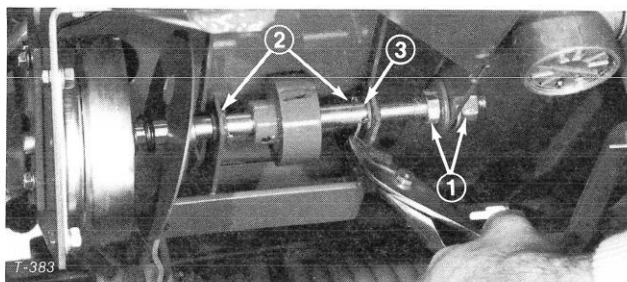

Figure 30
16. Center friction wheel in pedal, position shaft cotter pin holes so pins can be installed and insert cotter pins. Do not open ends of cotter pins. Check end play of shaft and pedal. End play should be less than 1/16 in. (1.6 mm). If play is greater than 1/16 in. (1.6 mm) add a 1/2 in. (13 mm) diameter washer between the cotter pin and pedal assembly (Fig. 30). Tighten jam nuts (Fig. 30).
17. Open ends of cotter pins (Fig. 30).